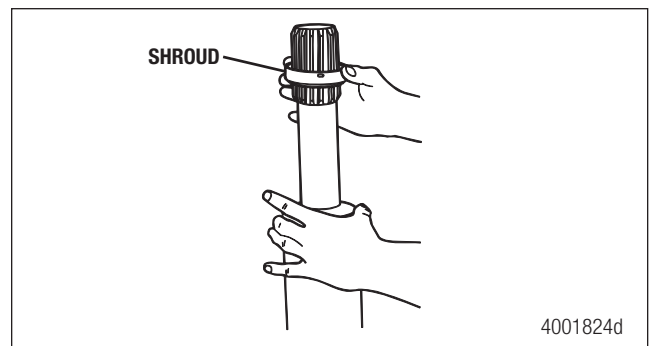

Figure 6.8
1. Install the shroud onto the slip shaft. Figure 6.8.